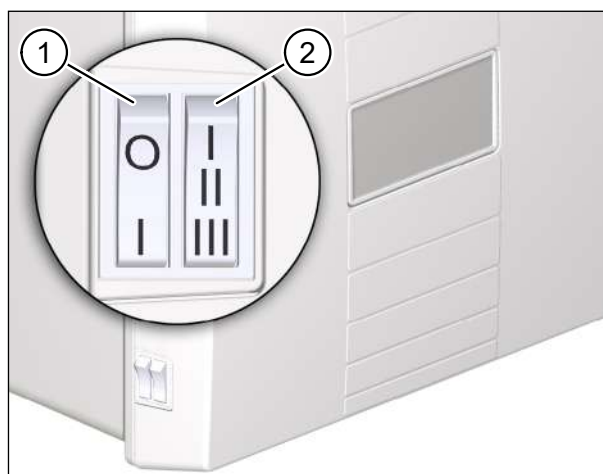

Fig. 11: Controls on the ventilation unit
The step switch (item 2 in Fig. 11) is used to set four different ventilation levels/programs (see section 10 on page 28); the maximum ventilation level is activated using a switching sequence and is time-limited.
- The power level selected on the stepping switch (item 2 in Fig. 11) is also signalled by the associated LED on the InControl pushbutton sensor.
- ▶ Switch the ventilation unit on at the mains switch (item 1 in Fig. 11 on page 22).
- using the step switch (item 2 in Fig. 11 on page 22) on the ventilation unit (see section 7.1 on page 22)
The ventilation unit runs at maximum ventilation level (97 m³/h). After roughly 15 minutes or when another button is pressed or the I-II-I switching sequence is repeated on the step switch (item 2 in Fig. 11 on page 22), the intensive ventilation is ended and the previously set ventilation program is resumed.